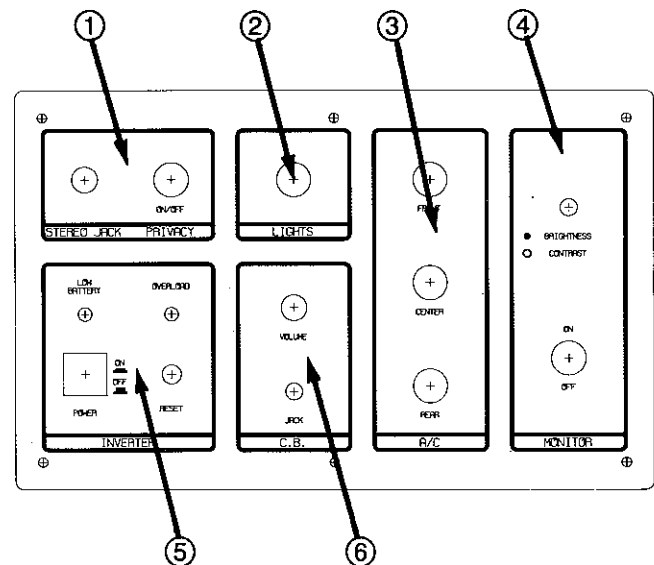

Figure 2-11. Pilot's Left Overhead Control Panel
Pilot's Left Overhead Control Panel (Figure 2-11)
- Picture brightness and ON/OFF switch on pilot's left overhead control panel, figure 2-11.
2. Downward/rearward movement of Retarder Hand control located at the gear selector console, (figures 2-11 & 2-12).